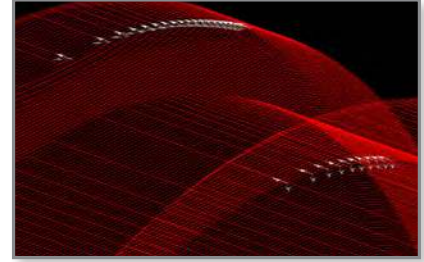

Figure 7: Arrows will move to show the new seam locations.
**STEP 7:** Click **OK** in the **Seam Control** menu and the arrows will move to the new seam locations (Figure 7).